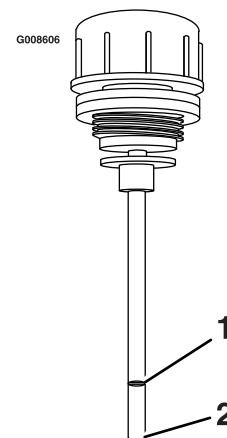

Figure 23
6. Remove the cap again and check the level of the oil on the dipstick. See Figure 23 for oil levels.